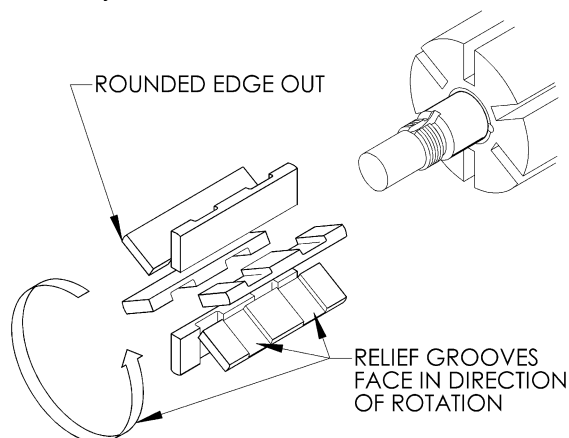

Figure 4 – Vane Installation
3. Turn the shaft by hand until a vane (14) comes to the top (12 o'clock) position of the rotor. Remove the vane.
4. Install a new vane (14), ensuring that the rounded edge is UP, and the relief grooves are facing towards the direction of rotation. See Figure 4.
the vane relief grooves facing TOWARDS the direction of rotation. Refer to Figure 4.